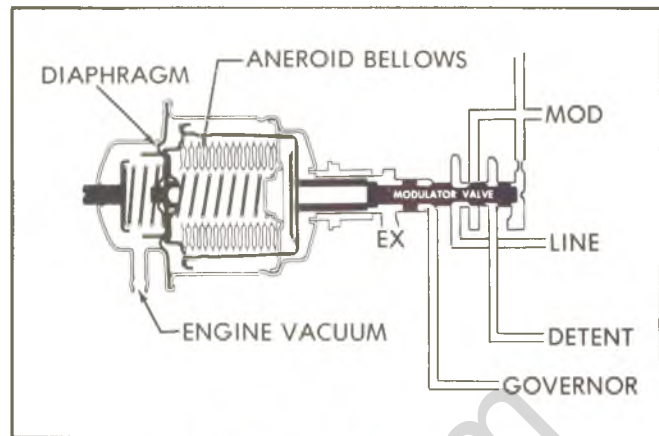

Fig. 8T—Vacuum Modulator Assembly
#### Vacuum Modulator Assembly (Fig. 8T)
**Modulator Valve (Fig. 8T)**